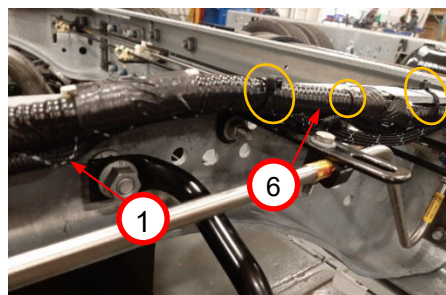

Figure 15.
8. Route fuel system chassis harness (1) along OEM chassis harness (6) along chassis frame crossmember and use zip ties (*circled*) to secure to OEM chassis harness. *Figure 15*